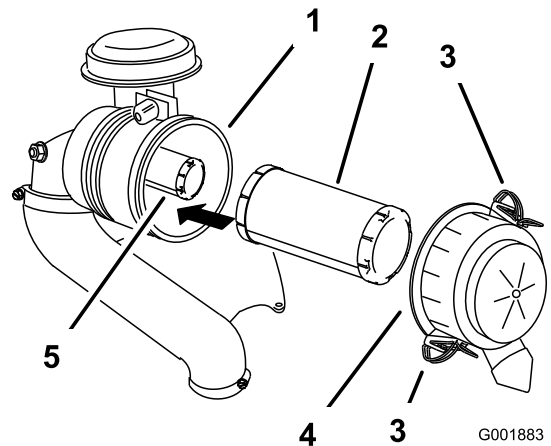

Figure 31
3. Release the latches on the air cleaner and pull the air cleaner cover off the air cleaner body (Figure 31).
5. Gently slide the primary filter out of the air cleaner body (Figure 31).
2. If the safety filter is being replaced, carefully slide it into the filter body (Figure 31).
3. Carefully slide the primary filter over the safety filter (Figure 31).
4. Install the air cleaner cover with the side indicated as **up** facing upward and secure the latches (Figure 31).